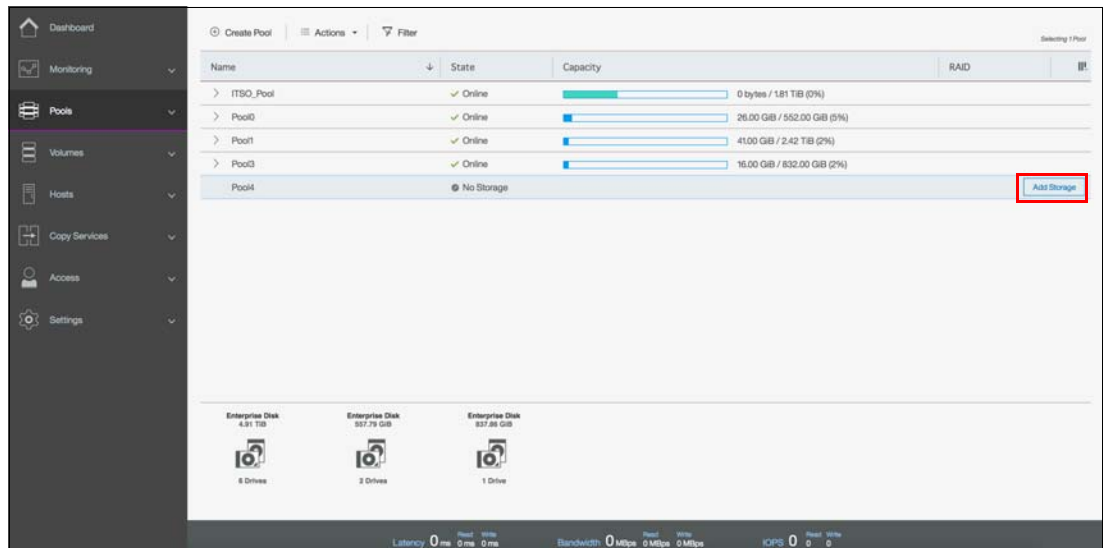

Figure 4-41 Add storage: option 1
- Option 1: Select **Add Storage** on the right side of the storage pool, as shown in Figure 4-41 on page 164. The Add Storage button is shown only when the pool has no capacity assigned or when the pool capacity usage is over the warning threshold.